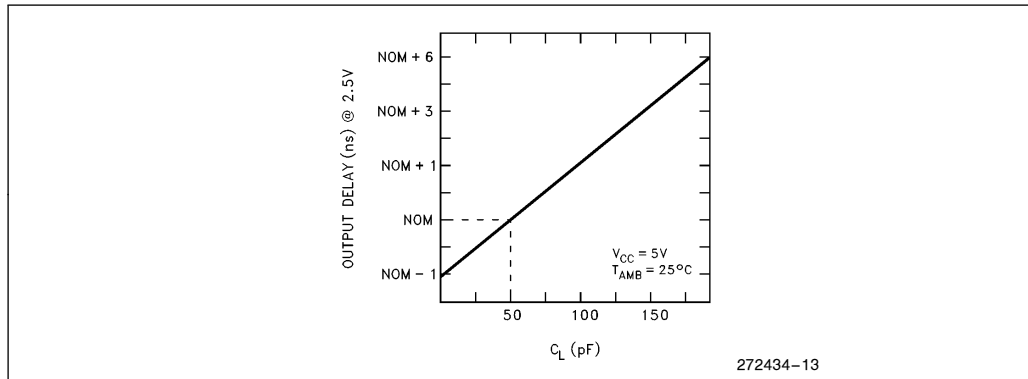

Figure 14. Typical Output Delay Variations versus Load Capacitance
4. Specified for a 50 pF load, see Figure 14 for capacitive derating information.